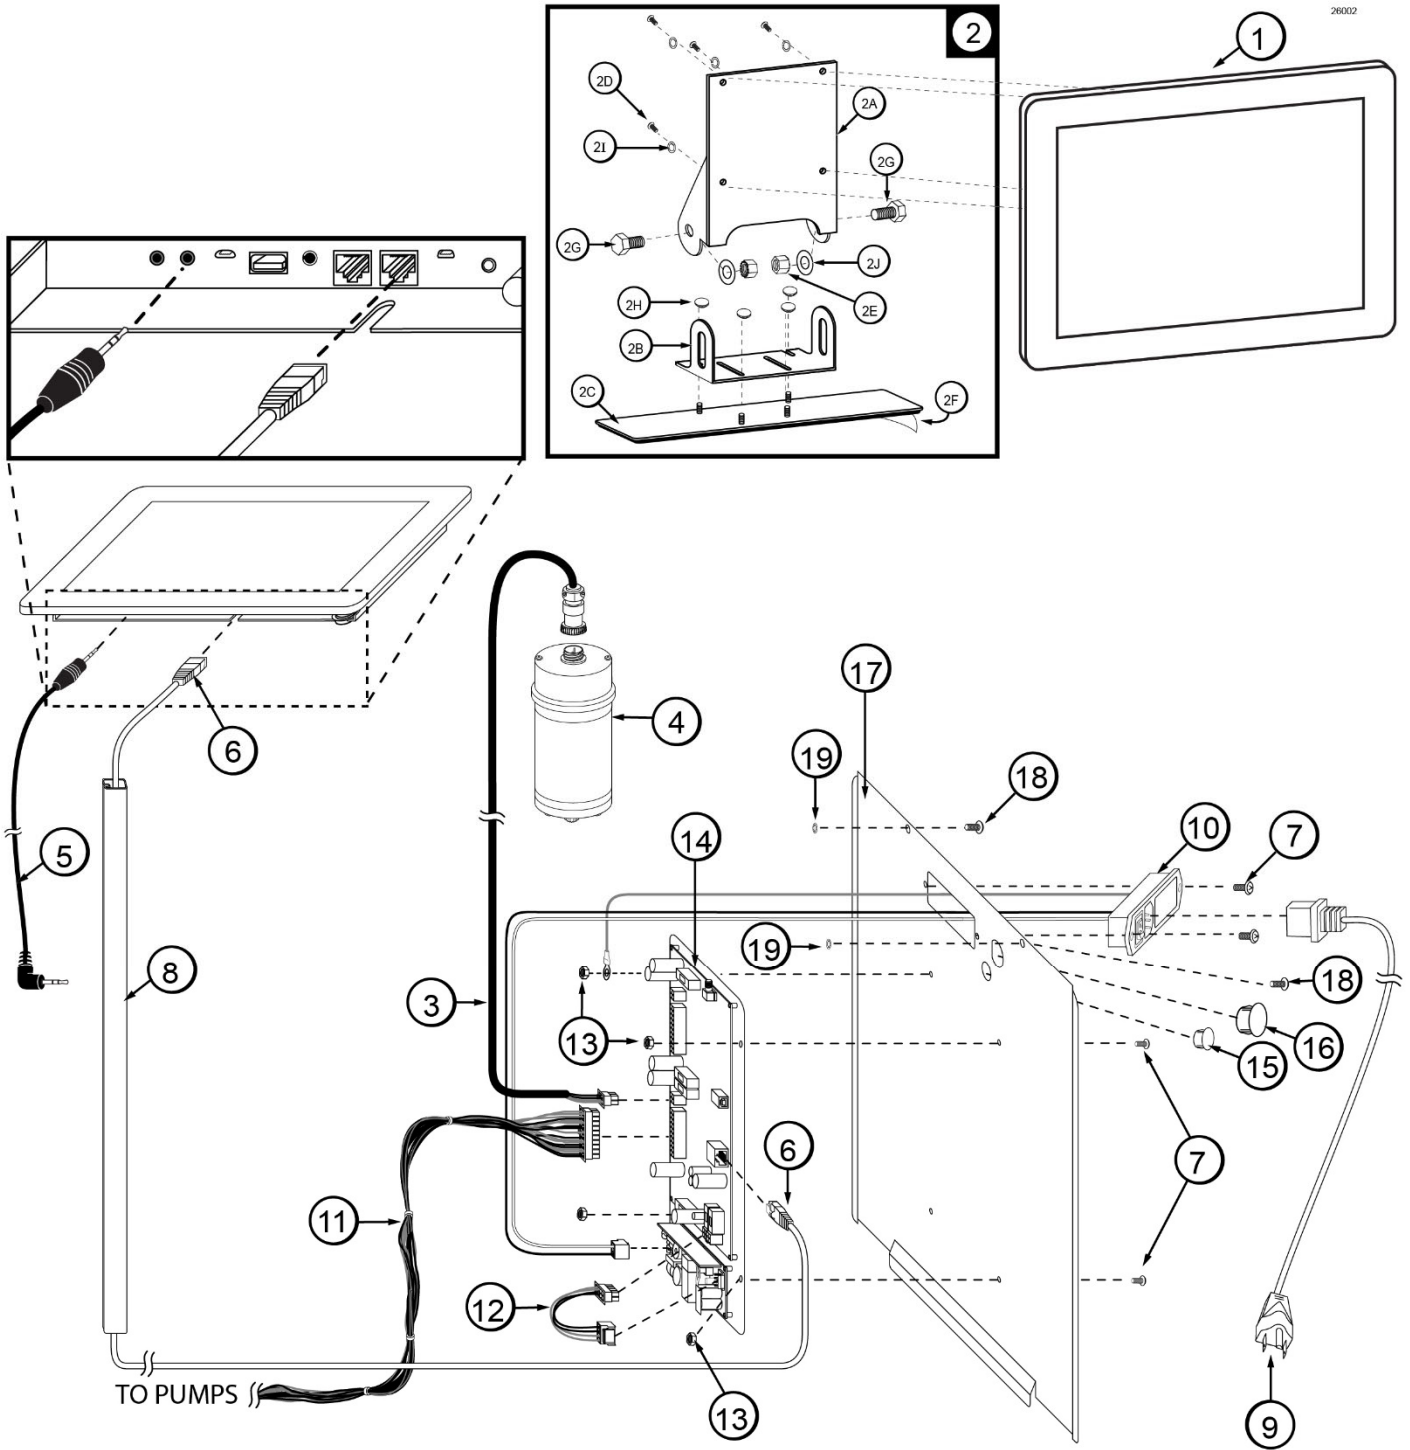

Figure 6
**Electronic Parts and Connections (See Figure 6)**